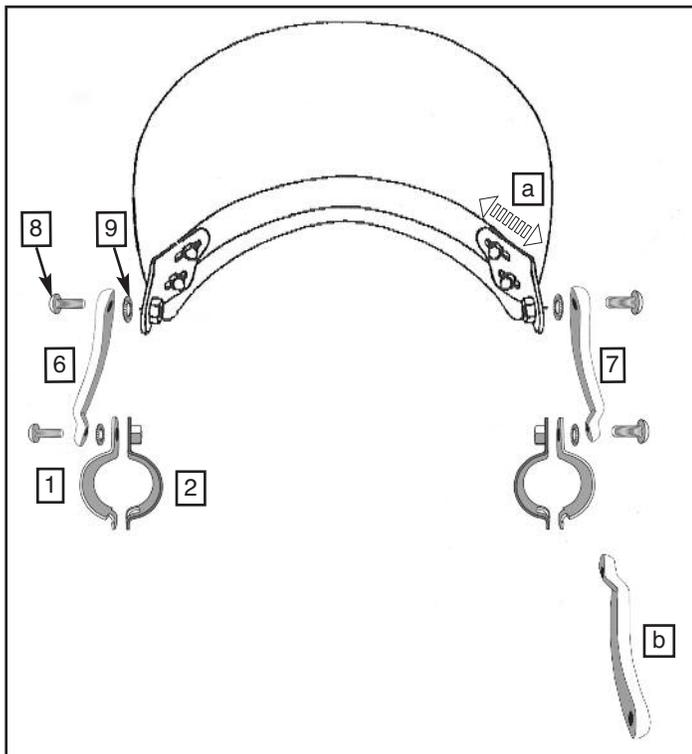

Figure 4
7. Change the position of the Offset Bracket (6 and 7) and the slotted Plate Bracket for Windshield to fit the motorcycle fork width. **Figure 4**
9. Hold Inner Clamp (2) to inside of fork tube, hook Outer Clamp (1) to the Inner Clamp.
10. Secure Clamp Assembly to the Offset Bracket with remaining M8 Screw (8) and Washer (9). (6mm Hex Wrench) **Figure 4 and 5**